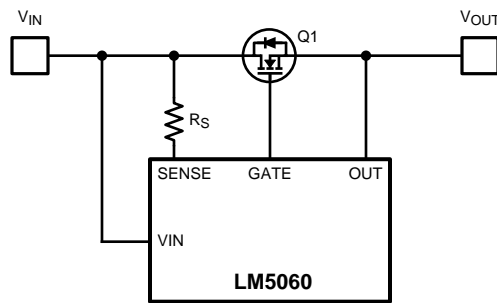

Figure 27. Setting the  $V_{DS}$  Threshold
The LM5060 monitors the  $V_{DS}$  voltage of the external N-Channel MOSFET. The drain to source voltage threshold ( $V_{DSTH}$ ), which is set with the resistor  $R_S$ , is shown in Figure 27;
- $R_{DS(ON)}$  is the resistive drop of the pass element Q1 in Figure 27
- (2)